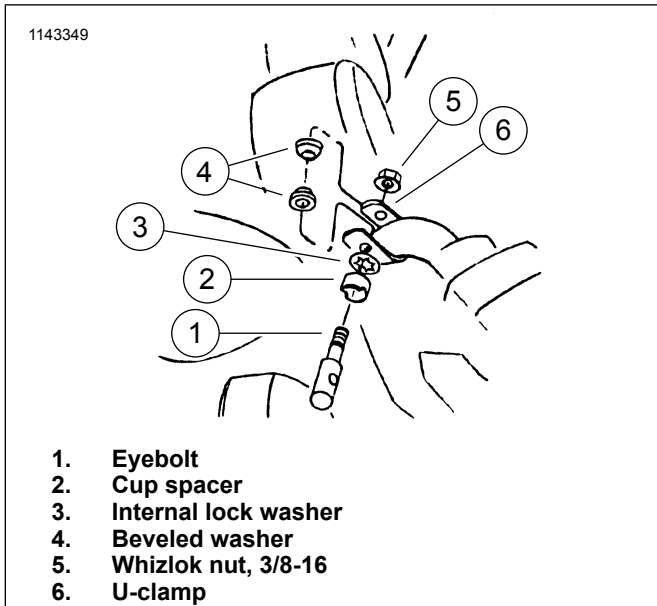

Figure 2. Assemble "U" Clamp
- See Figure 2. Place "U" clamp (6) around vertical segment of handlebar with open side of "U" clamp facing generally forward.
- Put cup spacer (2) and internal lock washer (3) on eyebolt (1).
- Slip eyebolt (1) through bottom of "U" clamp (6) from outside of handlebar. At the same time insert two beveled washers (4) into eyebolt inside "U" clamp (bevels toward each other), one on each side of handlebar.
- Start whizlok nuts (5) on eyebolt (1), but do not tighten.